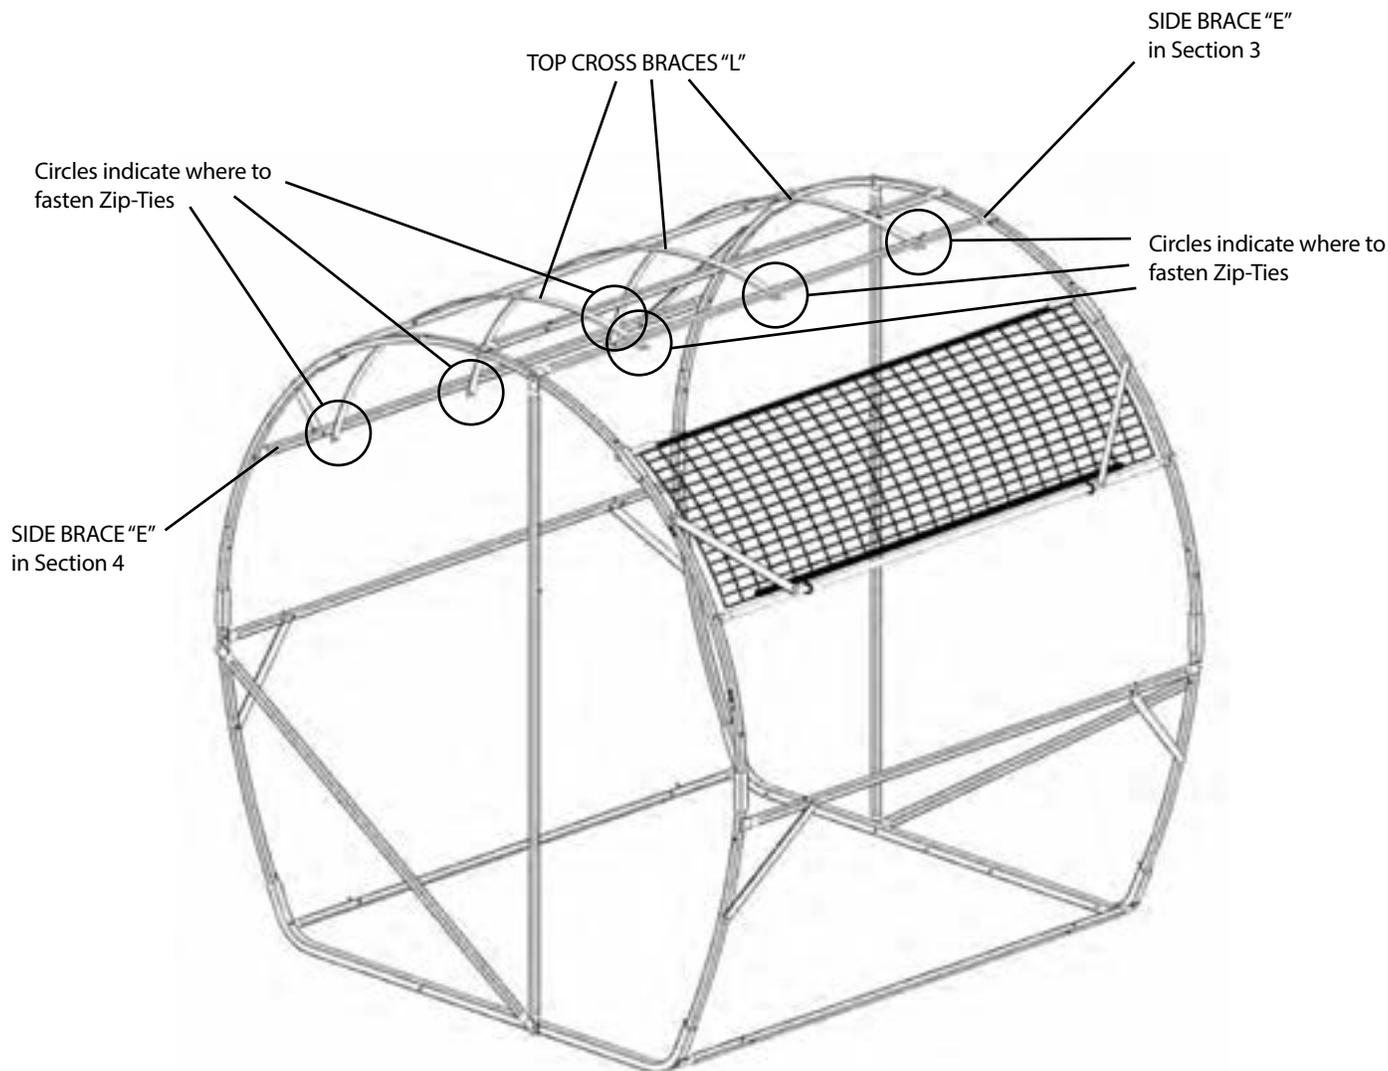

Figure 24.1
STEP 16: Locate the (3) TOP CROSS BRACES "L". The (3) TOP CROSS BRACES "L" will be installed along the top part of your bale blind frame, on the outside of (2) SIDE BRACES "E" in Section 3 of the frame, with their hole end resting under the SIDE BRACES "E" in Sections 3 & 4, resulting in the frame illustrated in Figure 24.1. Fasten the (3) TOP CROSS BRACES "L" with (6) Zip-Ties to the (2) SIDE BRACES "E" in Sections 3 & 4.
NOTE: If performing this step without assistance, assembly is easier achieved by standing inside the interior of the blind, and bending the (3) TOP CROSS BRACES "L" down over the (2) SIDE BRACES "E" in Section 3, then sliding each hole end under the outer (2) SIDE BRACES "E" in Sections 3 & 4, as illustrated in Figure 24.1